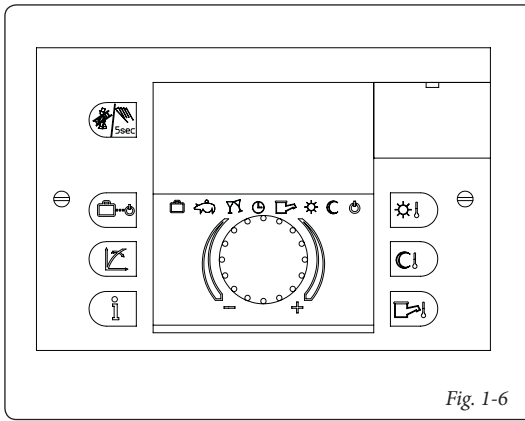

Fig. 1-6
- The cascade and zone regulator (Fig. 1-6) is connected to the boiler using only two wires, powered at 230 V and allows to: